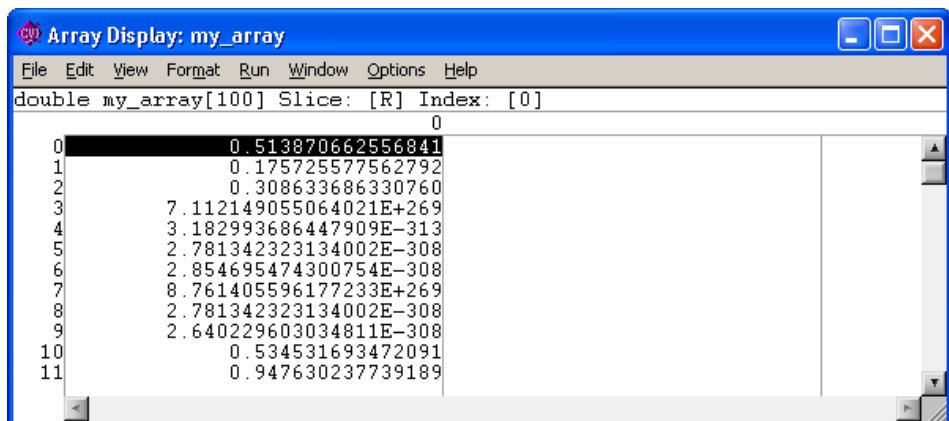

Figure 4-3. Array Display
3. Double-click `main` in the Stack Trace to view the variables defined in `main`. In the Variables window, double-click `my_array` to view `my_array` in the Array Display, as shown in Figure 4-3.
**Note** The actual values in your array might differ from the values shown in Figure 4-3. This example generates numbers between 0 and 1. The numbers shown in Figure 4-3 for index 3 through 9 are invalid, uninitialized values.
The Array Display shows the values of array elements in tabular format. In Figure 4-3, the array, `my_array`, is a one-dimensional array, so the display consists of one column of numbers. The numbers in the column on the left side of the display indicate the index number. The first element is zero.